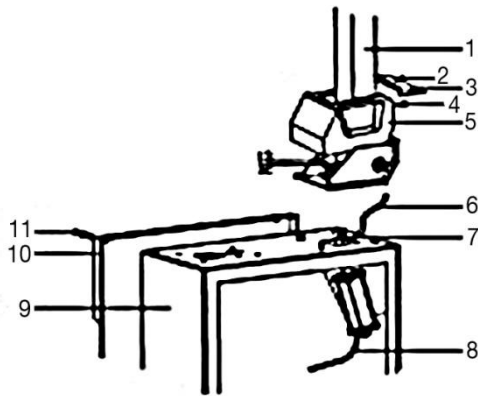

Fig. 3
1. Mount the main column 1 (Fig. 3) on the 4 bolts of the housing 9 (Fig. 3), push the air hose through the hole 6 (Fig. 3) and tighten the self locking nut.
2. Place the bolts in the holes and connect the cylinder 7 (Fig. 3)
3. Loosen the screws 11 (Fig. 3) and remove the left hand side panel 10 (Fig. 3) then connect the air hose to the T-junction inside the machine.
4. Mount the plastic cover 5 (Fig. 3) with the two screws 4 (Fig. 3)
5. Mount the rear plastic cover 3 (Fig. 3) on the column with the screws 2 (Fig. 3)